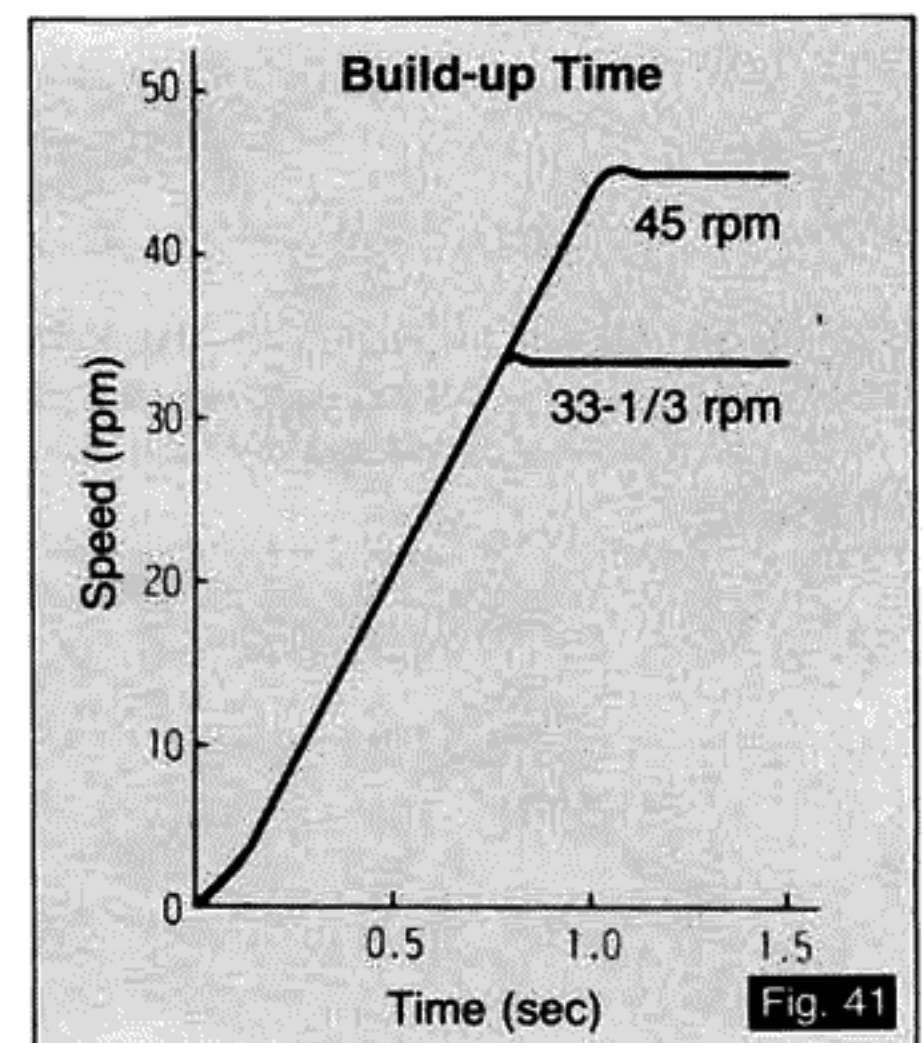

Fig. 41
- **High torque motor delivering 1.5 kg·cm makes it possible to reach 33-1/3 r.p.m. from standstill within 0.7 sec. (1/4 rotation) and to effect instantaneous speed change. (Fig. 41).**